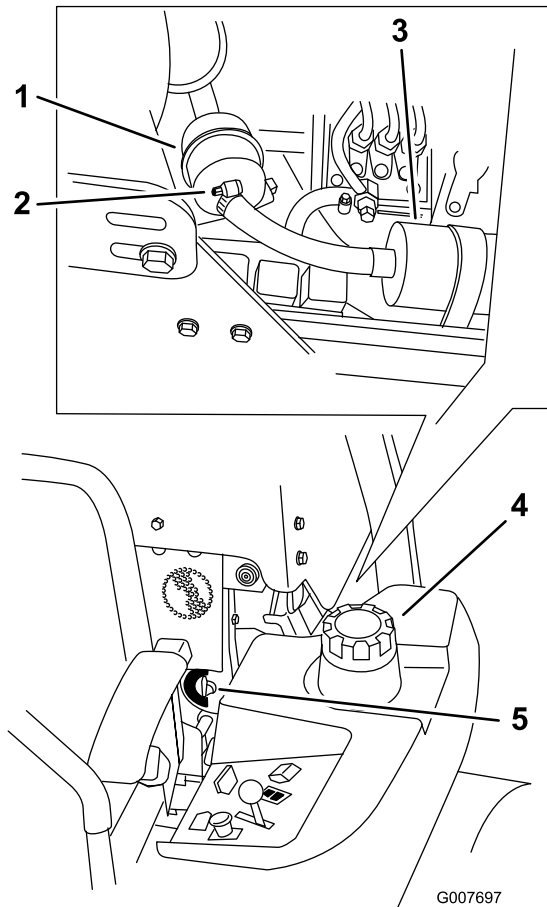

Figure 42
4. Close the fuel shut-off valve(Figure 42).
5. Loosen the two hose clamps and disconnect the fuel lines from the fuel filter (Figure 42).
6. Install a new filter. Connect the fuel lines to the fuel filter and install the two hose clamps (Figure 42).